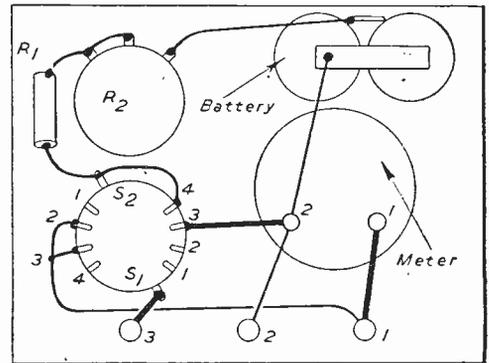
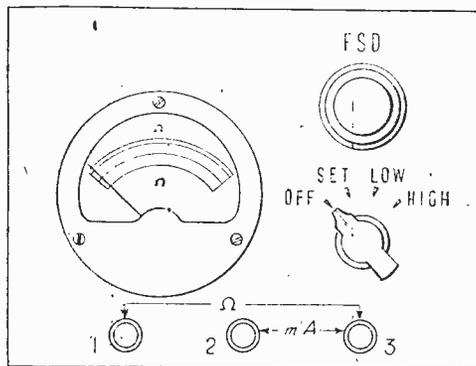

Fig. 2—Rear of panel wiring diagram.
Fig. 3—Front of panel layout and controls.
22. The first part to make is the semi-circular mounting. This consists of brass rod (or any other suitable material) of approximately $\frac{3}{16}$ in. diameter. This is bent to a semi-circle of 4 in. diameter (Fig. 20 (a)), and is then fixed to a piece of mild steel sheet cut to the dimensions shown in Fig. 20 (b) by means of the two brass saddles of Fig. 20 (c). It will be seen that the two "6 B.A. clear" holes on either side of the large hole of part O coincide with similar holes on either side of the hole for the tuning condenser spindle on the front plate in Fig. 3 (a). The centre hole for part O should now be made equal in diameter to that used by the constructor for the condenser spindle on the front plate. When assembled, the semi-circular contact mount, etc., should present the appearance sketched in Fig. 20 (d). It will be noticed that the brass saddles are situated behind part O.
Fig. 3.—Typical theatre set-up, capable of providing effects from tape, disc, or both, and interval music from disc. All speakers must be generously rated to avoid overloading.
Since the instrument is designed to measure low values of resistance, the internal connections should be made as short as possible and of heavy gauge wire, particularly those shown in heavy line in the theoretical diagram and the wiring diagram, Fig. 2. The switch, whether Yaxley type or not, should be substantial and self-cleaning. The panel should be of wood or metal if insulated terminals are used, otherwise an insulating material should be used. The upper surface of the panel should be covered with white card appropriately drilled and marked, as suggested by Fig. 3. The container in which the instrument is housed is left to the discretion of the constructor, as are the details of how the battery is clamped. The leads to the battery should be soldered to the brass contact strips. When inserting the first battery or a renewal, make sure that the leads are connected so that the milliammeter needle is deflected in the proper direction.
The theoretical circuit of a simple series aerial tuner is shown at Fig. 2. The coils can be home made, consisting of a single winding, using discarded valve bases as the formers, the windings duplicating those of the coils used in the receiver as to the ranges covered. On the other hand, commercial-type four-pin coils can be used, using grid winding only. The tuning condenser used in the unit should be of .0001 μ F capacity and should be fitted with a slow-motion dial.